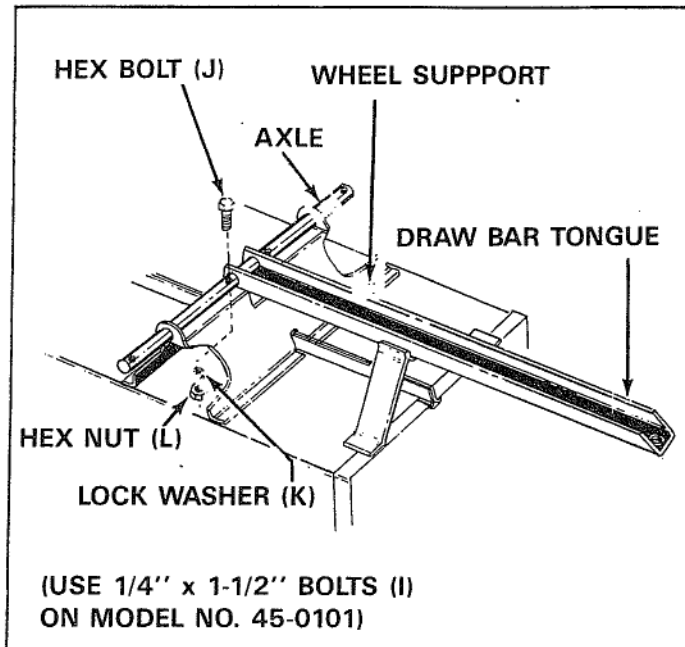

FIGURE 12
18. Assemble axle and draw bar tongue to wheel support keeping open side of tongue facing up, make sure that latch lock snaps over latch stand. Secure axle to wheel support or axle brackets, using 1/4" x 1-3/4" long hex bolts (J), lock washers (K) and hex nuts (L). See figure 12.